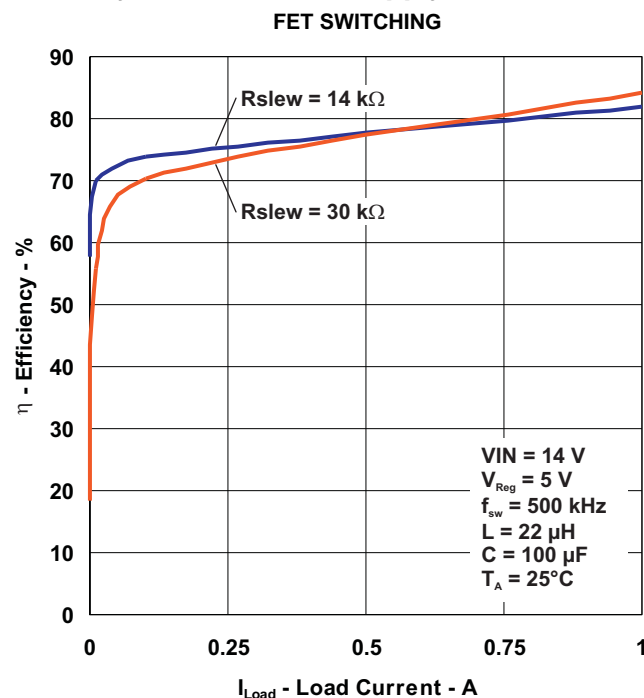
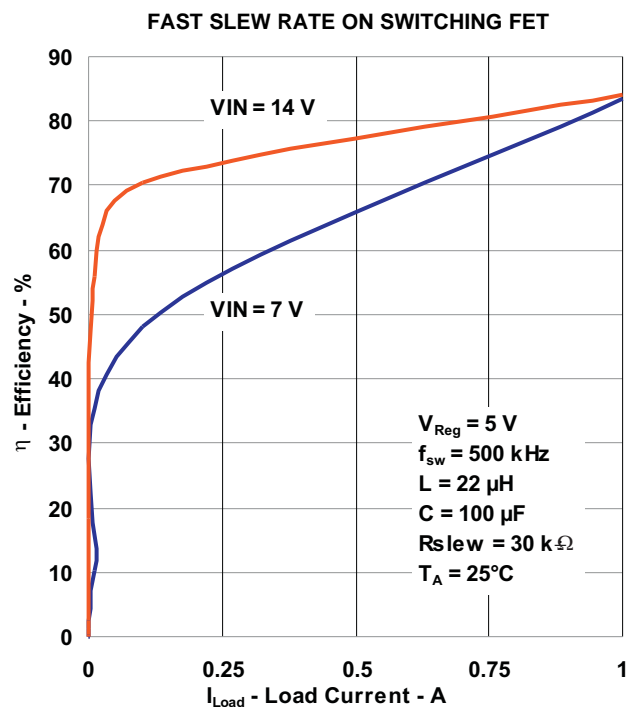

Figure 5.
Figure 6.
- In Figure 5 and Figure 6, L and C are output inductor and capacitor respectively.